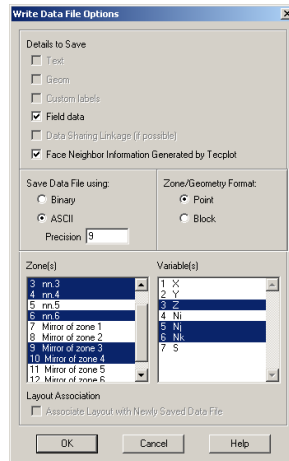

Figure 5-7. The Write Data File Options dialog.
1. From the File menu, choose Write Data File. The Write Data File Options dialog appears, as shown in Figure 5-7.